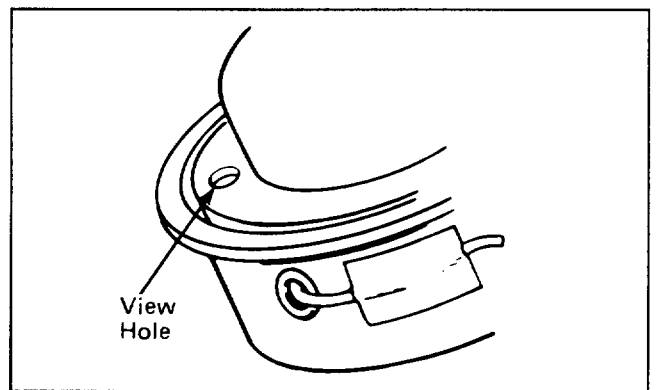

Figure 8
1. To avoid line tangle during shipment, the tip of the monofilament line has been taped to the head assembly. The tape must be removed before operation (Fig. 8).
2. A view hole in the spool cap is provided to show how much line remains on the spool without removing spool (Fig. 8).